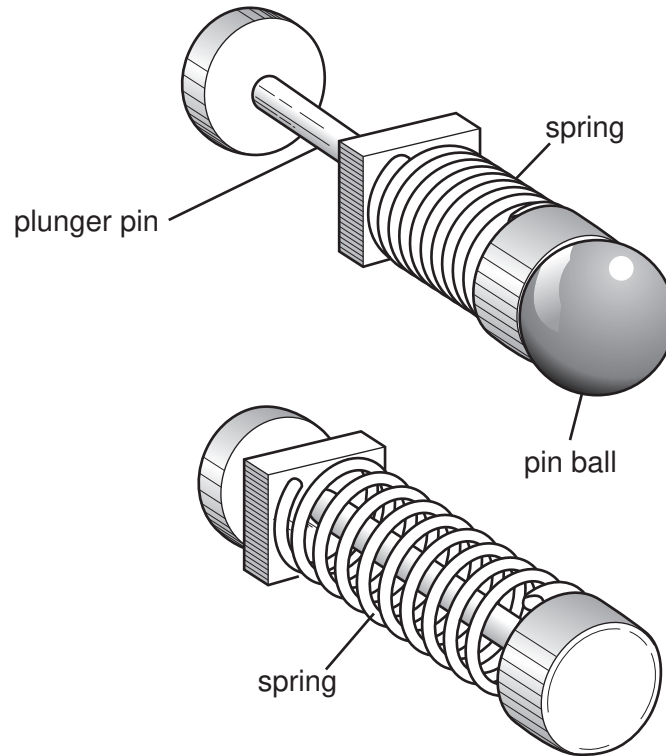

Fig. 9
- 4 Fig. 9 shows the firing mechanism for a pinball game.